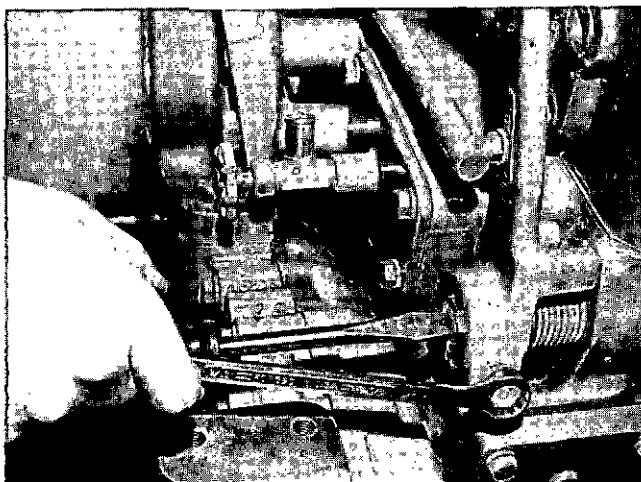

Fig. 14-1-70, V414165. Adjusting compression release lever
3. While holding right lever midway between its stops, turn right-bank compression release lever clockwise with a screwdriver until lifting notch contacts an intake valve push tube collar. Tighten locking screws on right lever, Fig. 14-1-70.